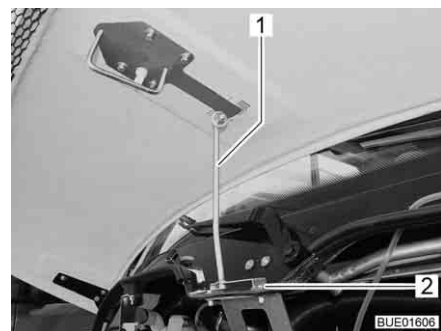

Fig. 42 Bonnet supports (Viseo)
- Unfold the supports (Fig. 42,1) and attach to the holder (Fig. 42,2).